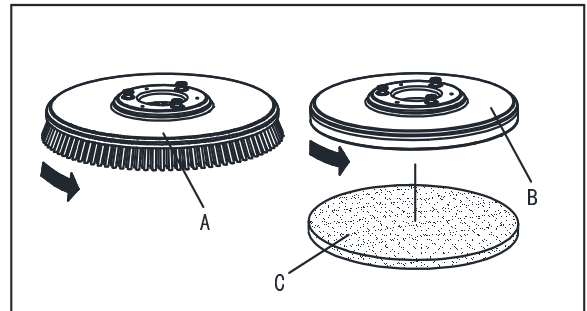

Figure 5
Install either the brush (A, Figure 5) or pad holder (B and C, Figure 5) according to the type of floor to be cleaned.
1. Insert the ignition key (35) and turn it to "O".
2. Lift the deck by pressing the pedal (9).
3. If equipped, turn the speed adjuster (40) to idle by turning it counter-clockwise.
4. Place the brushes (A, Figure 5) or the pad holder (B) under the deck (21).
5. Lower the deck on the brushes/pad holders by pressing the pedal (9).
6. Turn the ignition key (35) to "I".
7. Brush/pad holder and vacuum system switch (46).
8. Press one of the Brush/forward gear switch (34) to engage the brush/pad holder, then release it. If necessary, repeat the procedure until the brushes/pad holders are engaged.
9. If Step 8 above proves to be difficult, use the manual method by turning the brush/pad holder in the direction opposite to the normal turning direction, and it can be taken off. (as shown in Figure 5)